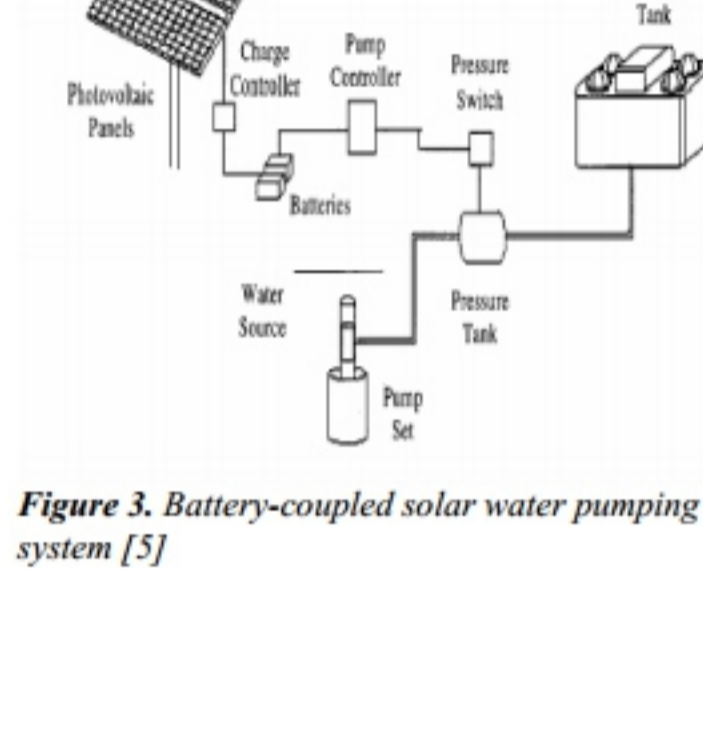

Figure 3. Battery-coupled solar water pumping system [5]
Battery-coupled water pumping systems consist of photovoltaic (PV) panels, charge control regulator, batteries, pump controller, pressure switch and tank and DC water pump (**Figure 3**). The electric current produced by PV panels during daylight hours charges the batteries, and the batteries in turn supply power to the pump anytime water is needed. The use of batteries spreads the pumping over a longer period of time by providing a steady operating voltage to the DC motor of the pump. Thus, during the night and low light periods, the system can still deliver a constant source of water for livestock.